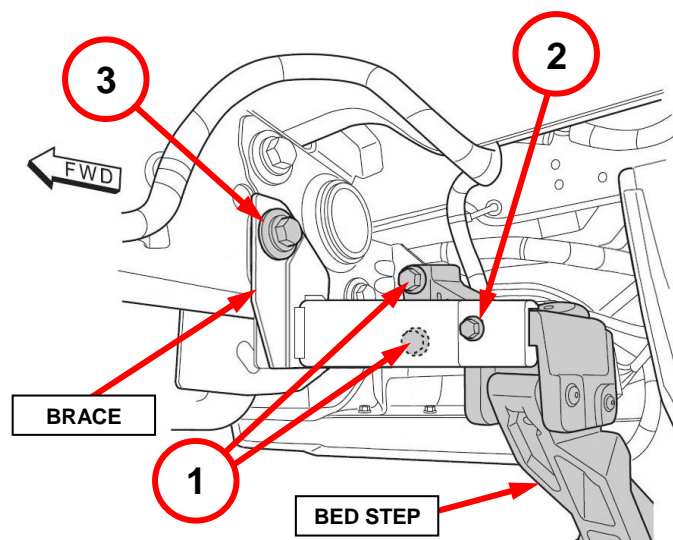

**Figure 3 – New Bed Step Brace**
5. Install the **NEW** bed step brace (Figure 3).
6. Loose install the **NEW** M8 bolt then the **NEW** M16 bolt included in the campaign kit (Figure 3).